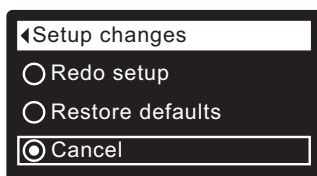

FIG. 39
1. From any of the rolling status screens, press the SELECT (O) button to display the **Main menu**.
3. Press the SELECT (O) button to display the Advanced settings menu.
5. Press the SELECT (O) button to display the Troubleshooting menu.
7. Press the SELECT (O) button to display the Setup changes menu (See Figure 39).
8. Press the RIGHT (►) button. The flashing padlock icon will disappear, as shown in Figure 39.
9. Press the SELECT (O) button.